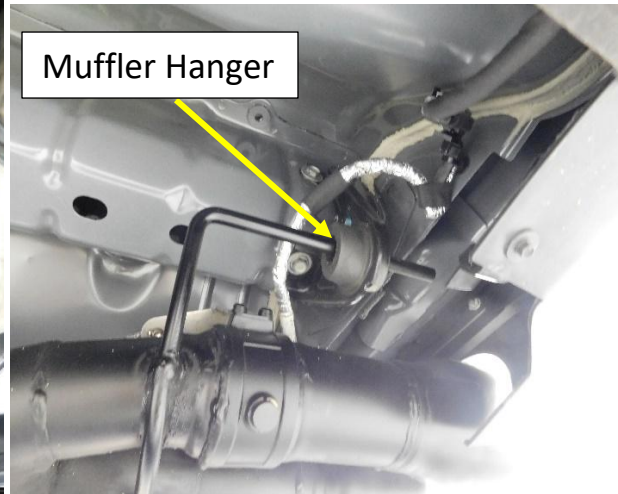

Figure.9
8. Install the OEM muffler hanger assembly onto the Flowmaster Muffler hanger rod, rotate into position and clip the tab into the frame rail. Install the (x2) Mounting bolts **Fig.9**